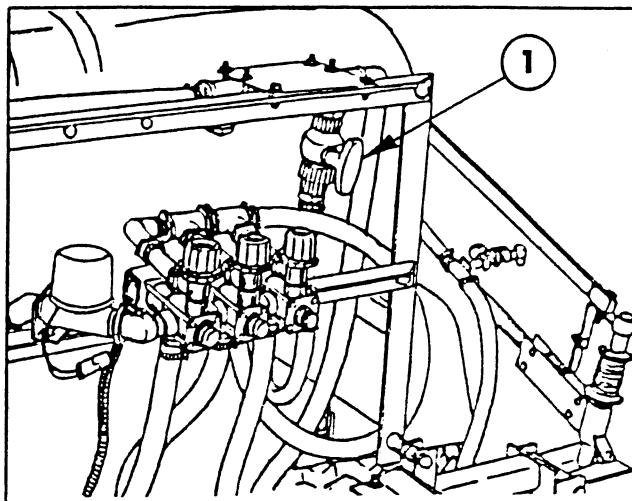

FIG. 2
**JET AGITATOR VALVE HANDLE** (FIG 2): Opens and closes the Agitator Valve to activate, adjust or stop the agitation of the spray solution in the Tank.